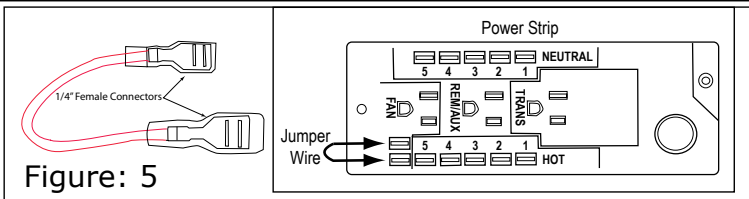

Figure: 5
See Figure: 5
Step 4: Insert the Jumper Wire into the two small ports in the lower corner of Junction Box. Below where 'FAN' is printed, one port is above the other. (Figures: 5 & 6)
Insert 2-Prong Plug into where 'FAN' is printed on the Junction Box. (Figures: 5 & 6)
- b) If using the power strip jumper wire shown in Figures 5 & 6, ensure the jumper is installed properly allowing power to be supplied to the power strip.